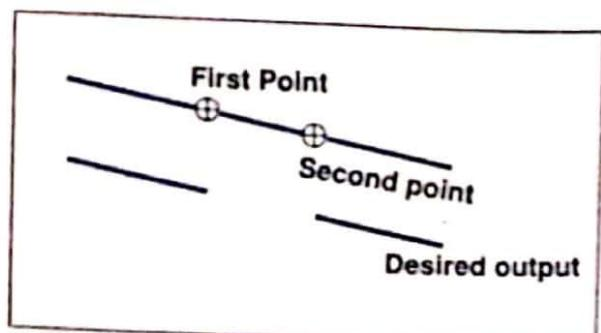

Fig. 19.33 Use of break command
- (v) Select the second point of the break. See Fig. 19.33.